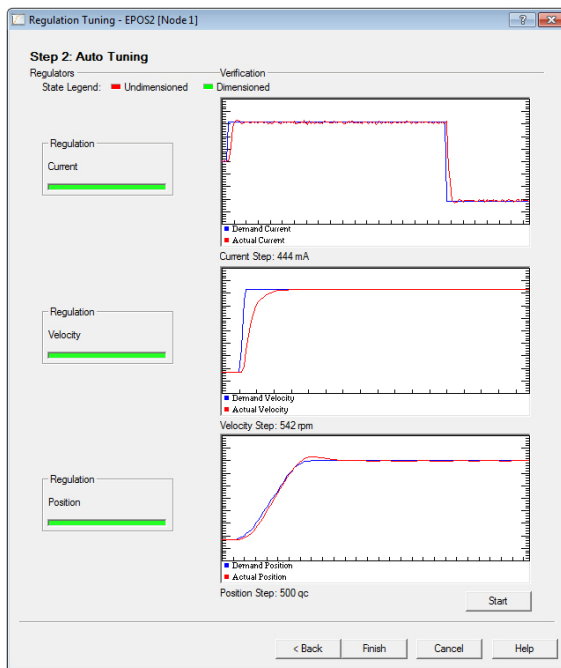

Figure 3-35 End of Auto Tuning
- Auto Tuning is complete as all three status bars changed to green (→ Figure 3-35).